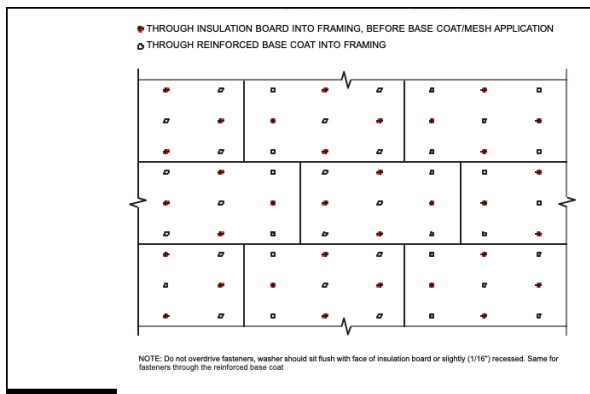

FIGURE 1
3. Reference Figure 1 below detail for spacing/placement.